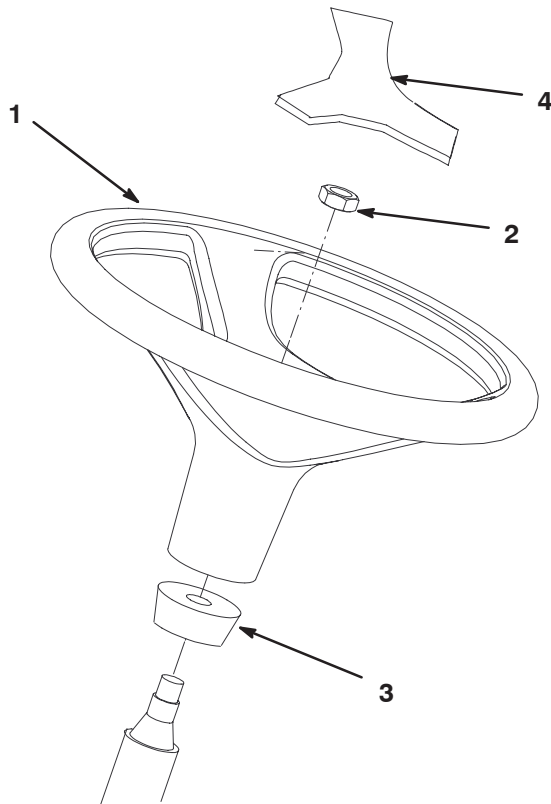

Figure 2
1. Remove steering wheel from seat plate. Remove cap from steering wheel (Fig. 2).
2. Remove jam nut from steering shaft. Make sure foam collar is on steering shaft (Fig. 2). Slide steering wheel onto steering shaft.